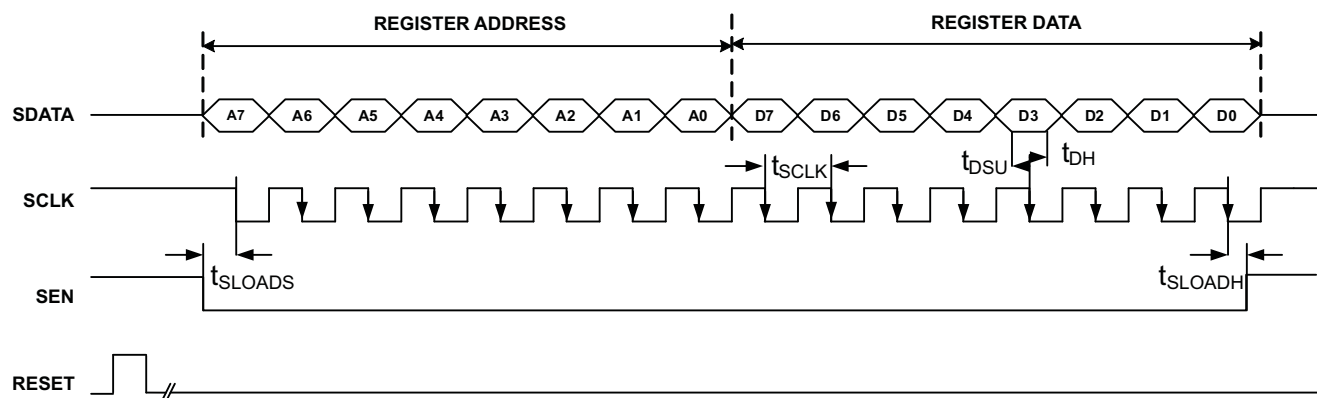

Figure 7. Serial Interface Timing
1. Either through hardware reset by applying a high-going pulse on RESET pin (of width greater than 10ns) as shown in Figure 7.